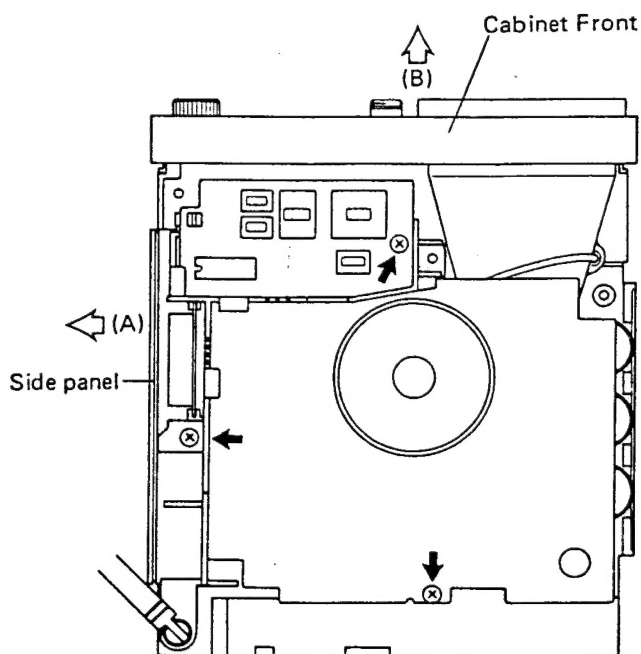

Figure 4
3. Remove three screws as indicated in Figure 4.
4. Pull out the Side Panel in the direction (A) as indicated in Figure 4.
5. Pull out the Cabinet Front in the direction (B) as indicated in Figure 4.